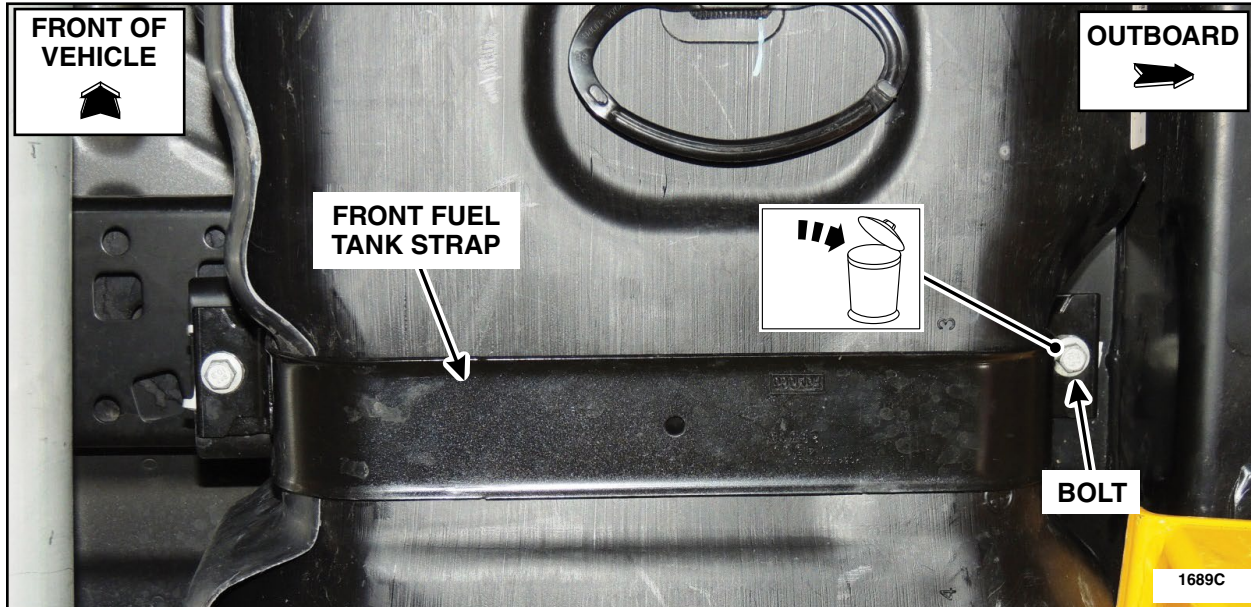

FIGURE 4
5. Remove and discard the outboard front fuel tank strap bolt. Position the fuel tank strap aside to gain access to the J-clip. See Figures 4 and 5.
12. Install the front fuel tank strap and install a *new* outboard front fuel tank strap bolt. See Figure 4.